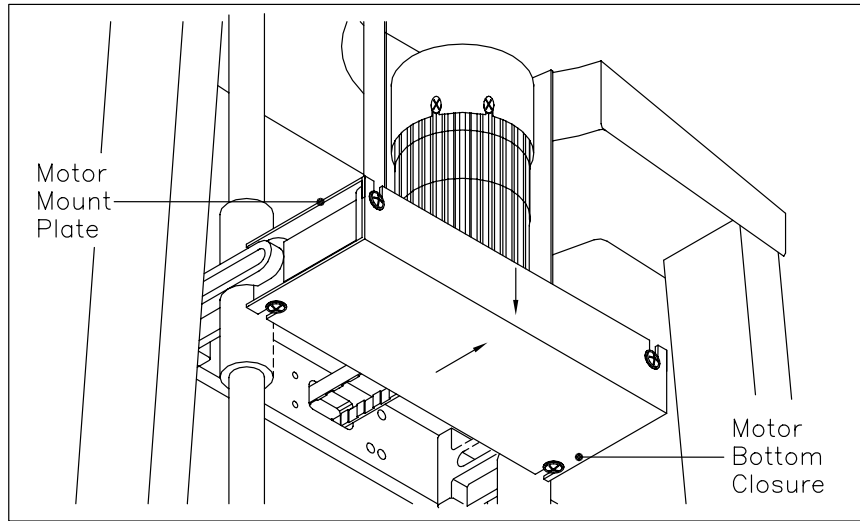

Figure 8-5: Motor Bottom Closure Removal
4. Go to the back of the unit. Loosen the 4 screws that mount the motor bottom closure. Remove the closure by sliding it down and out. (see Figure 8-5)